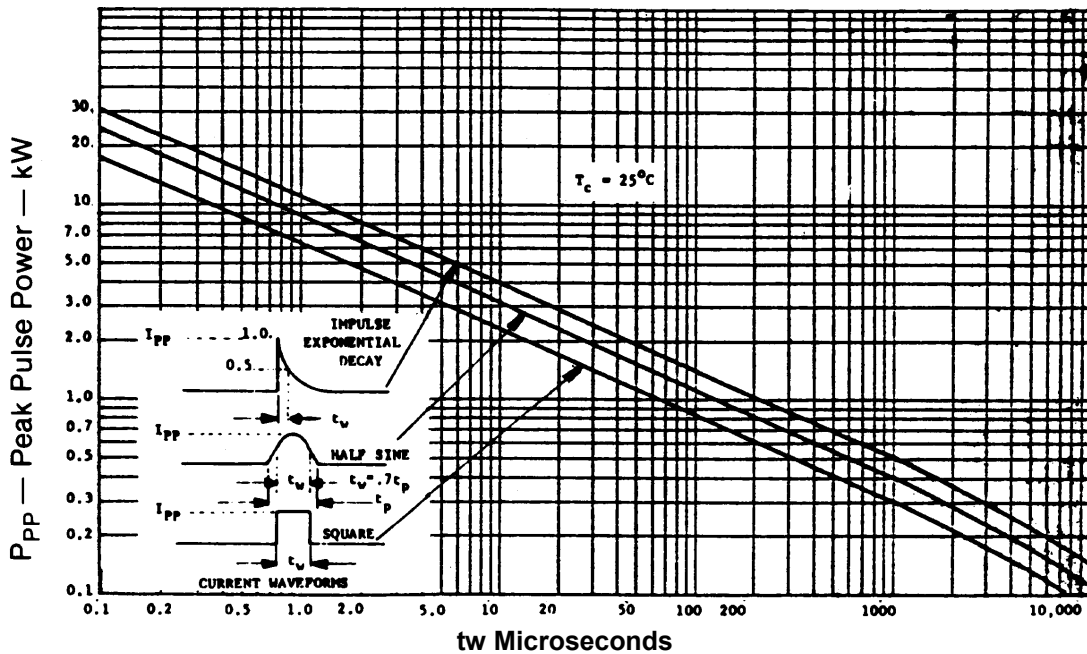

Figure 1
- Suppresses transients up to 500 W @ 10/1000  $\mu$ s (see Figure 1, 2, and 3).
- Peak Pulse Power dissipation at 25°C: 500 watts at 10/1000  $\mu$ s (also see Fig 1, 2, and 3)